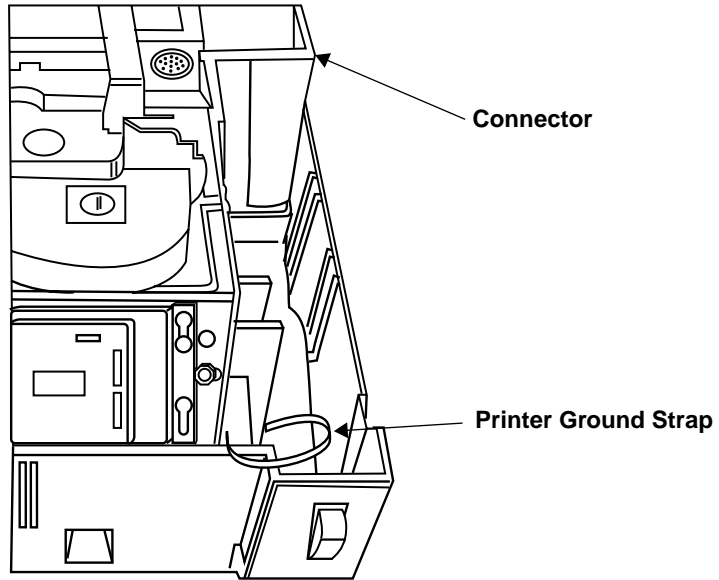

Figure 5-7. Disconnecting Cable from Connector
5. Disconnect cable from connector on the right side. See **Figure 5-7**.
- Disconnect the printer ground strap (slide on connector) from the right side of the printer, as shown in **Figure 5-7**).